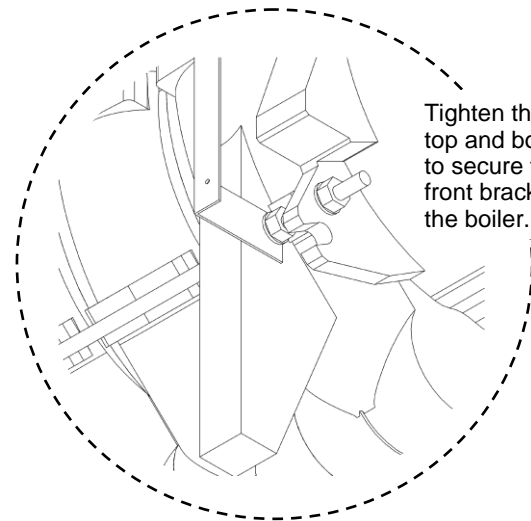

Figure 4-7 Insulate Heat Exchanger
5. Install fiberglass insulation on the boiler by wrapping it around the heat exchanger. Secure with factory supplied twine (Figure 4-7).